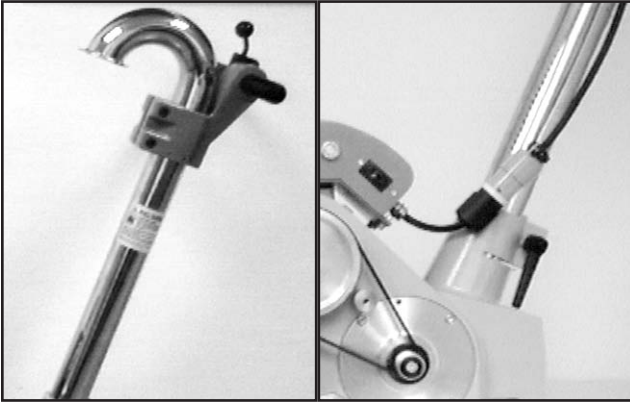

Fig. 9
1. Fit the dust suction tube in place. (fig. 9)